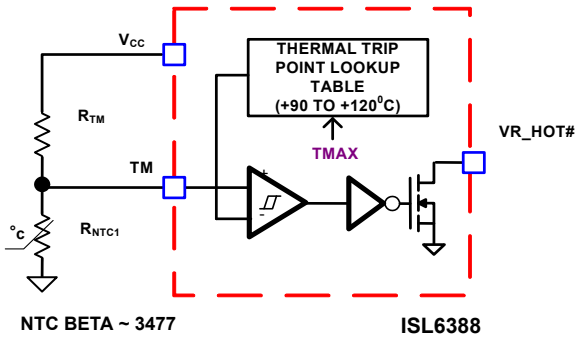
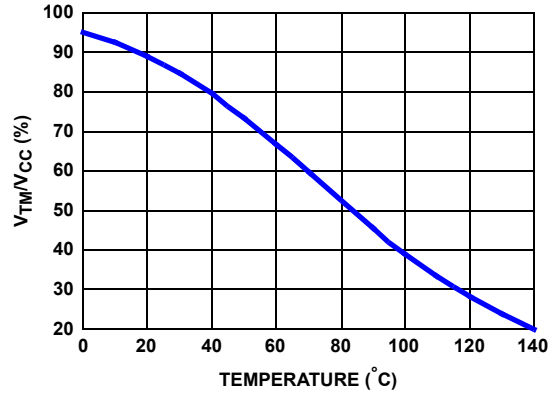

FIGURE 20. BLOCK DIAGRAM OF THERMAL MONITORING FUNCTION
FIGURE 21. THE RATIO OF TM VOLTAGE TO NTC TEMPERATURE WITH RECOMMENDED PARTS
The block diagram of thermal monitoring function is shown in Figure 20. One NTC resistor should be placed close to the respective power stage of the voltage regulator VR to sense the operational temperature, and pull-up resistors are needed to form the voltage dividers for the TM pins. As the temperature of the power stage increases, the resistance of the NTC will reduce, resulting in the reduced voltage at the TM pin. Figure 21 shows the TM voltage over the temperature for a typical design with a recommended 6.8kΩ NTC (P/N: NTHS0805N02N6801 from Vishay, b = 3477) and 1kΩ resistor RTM. It is recommended to use those resistors for the accurate temperature compensation since the internal thermal digital code is developed based upon these two components. If a different value is used, the temperature coefficient must be close to 3477 and RTM must be scaled accordingly. For instance, say NTC = 10kΩ (b = 3477), then RTM should be 10kΩ/6.8kΩ\*1kΩ = 1.47kΩ.
There is a comparator with hysteresis to compare the TM pin voltage to the threshold set by the TMAX register (programmable via PMBus E8[2:0]) for VR\_HOT# signal. With TMAX set at +100 °C, the VR\_HOT# signal is pulled to GND when TM voltage is lower than 39.12% of VCC voltage, and is open (pulled high through TM) when TM voltage increases to above 40.98% of VCC voltage. The comparator trip point will be programmable by TMAX register. Figure 21 shows the operation of those signals.
Based on the VCC voltage, the ISL6388 converts the TM pin voltage to a 6-bit TM digital signal for temperature compensation. With the non-linear A/D converter of ISL6388, the TM digital signal is proportional to the NTC temperature. For accurate temperature compensation, the ratio of the TM voltage to the NTC temperature of the practical design should be similar to that in Figure 21.
When a different NTC type or different voltage divider is used for the TM function, the TCOMP voltage can also be used to compensate for the difference between the recommended TM voltage curve in Figure 21 and that of the actual design. If the same type NTC (β = 3477) but different value is used, the pull-up resistor needs to be scaled, as shown in Equation 20:
1. Properly choose the voltage divider for the TM pin to match the recommended curve in Figure 21.